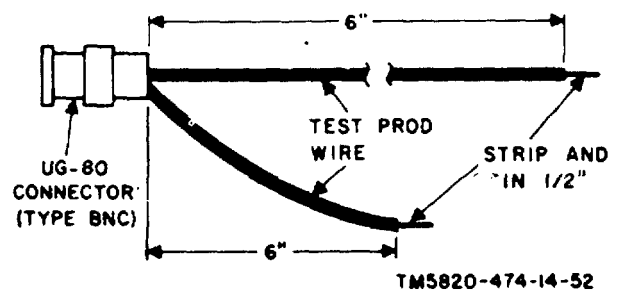

Figure 52. Test cable No. 7, construction details.
g. Test Cable No. 7 (fig. 52). Test cable No. 7 is used to connect the output of the AN/URM-25A impedance adapter to the input of the receiver. One cable is required.